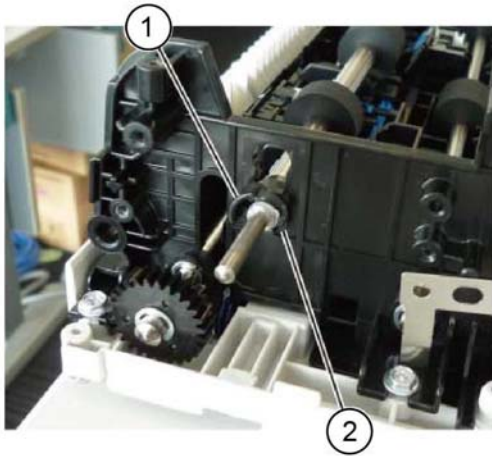

Figure 8 Bearing removal
14. Remove the front bearing, Figure 8:
- a. Remove the KL-clip (1).
- b. Remove the bearing (2).